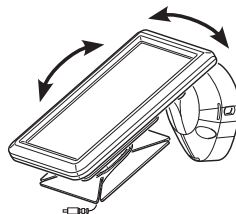

Figure 7
2. Rotate the solar panel to the desired angle (see Figure 7).